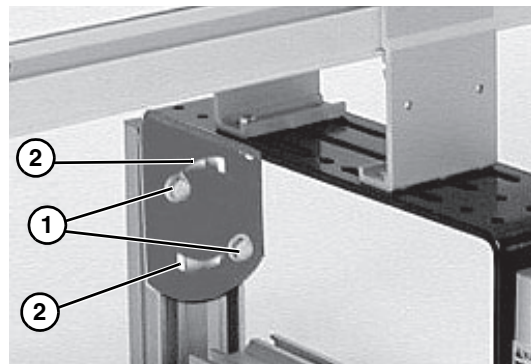

Figure 15
To rotate stand top plate, screws (Figure 15, item 1) may need to be re-located to t-slots (Figure 15, item 2).
1. Loosen flange head hex screws (Figure 15, item 1) on both sides of stand.
Failure to secure screws (Figure 15, item 1) may cause conveyor sections to drop down, causing severe injury.
**TIGHTEN ALL SCREWS** (Figure 15, item 1) **AFTER ADJUSTMENT.**
3. Secure screws (Figure 15, item 1) to 150 in-lb (17 N-m).